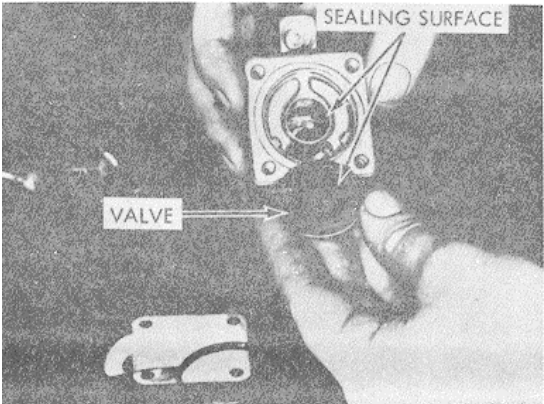

Figure 3-35. "Plate type" valve inspection.
(2) Visually check valve and valve seat for wear, bonding failure or corrosion. Replace if necessary. Valve seat should have a minimum seat 0.015 inch wide (fig. 3-35).
(3) Check coil assembly with an ohmmeter; replace if below values given in table 2-2.